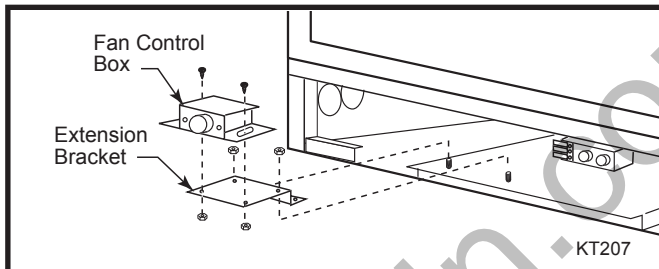

Fig. 50 Attach the control box to the bracket and install bracket into the cabinet.
- b. Attach the Fan Speed Control Box to the Bracket (Fig. 50) and install the Bracket into the Cabinet.